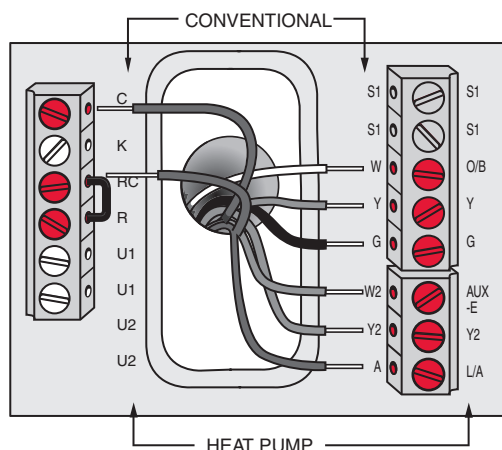

Fig. 19. Thermostat wired directly to equipment.
- Refer to Fig. 19. See Table 10 on page 118 for terminal designations and "Wiring" beginning on page 117 for more information.